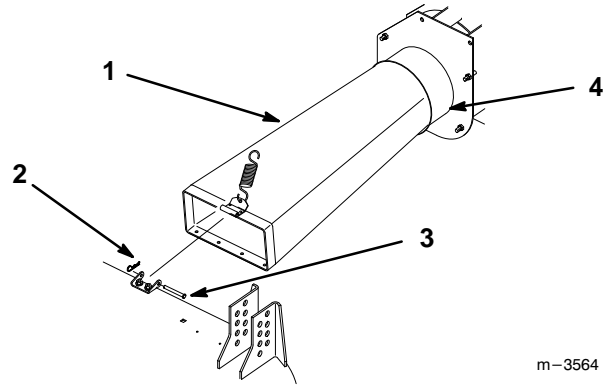

Figure 9
19. Raise mower and slide chute into blower inlet (Fig. 9).
20. Lower mower and slide chute forward against rear of mower. Secure chute to rear of mower latch with clevis and hairpin cotter pin (Fig. 9).